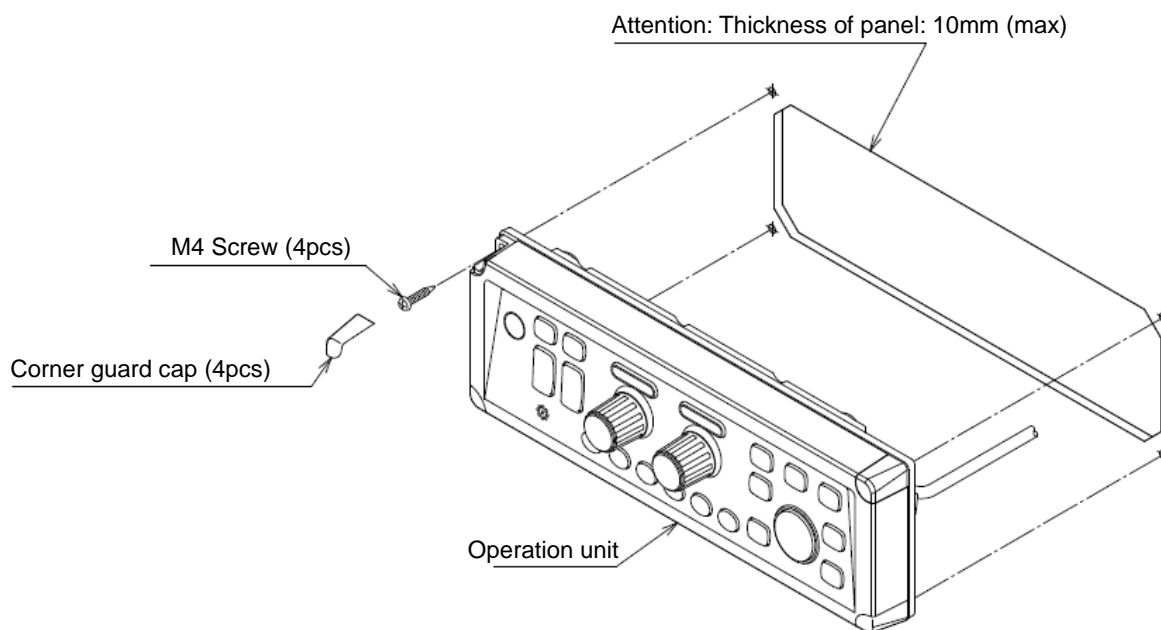

**Fig.1.12 Maintenance space of desk-top installation**
- (1) Decide the location to install the Operation unit and keep the space for the maintenance works as shown in Fig. 1.12.
- (2) Mark the position where installation plinth is installed. (See Fig. 1.12)
- (3) Remove 4 plastic corner guard caps of the Operation unit (These can be easily pulled out upwards)
- (4) Fix the clamps to the Operation unit with the screw of 4M (4mm). Install the corner guard caps removed in step (3).
- (5) Confirm that the clamps matches the marking position. If not matches, correct the marking position
- (6) Install the clamps in the installing location (4 holes) and fix it with 4 tapping screws (4mm) (M4 or pan-head). (Prepare 4 mm screws suitable for thickness of installing location.)